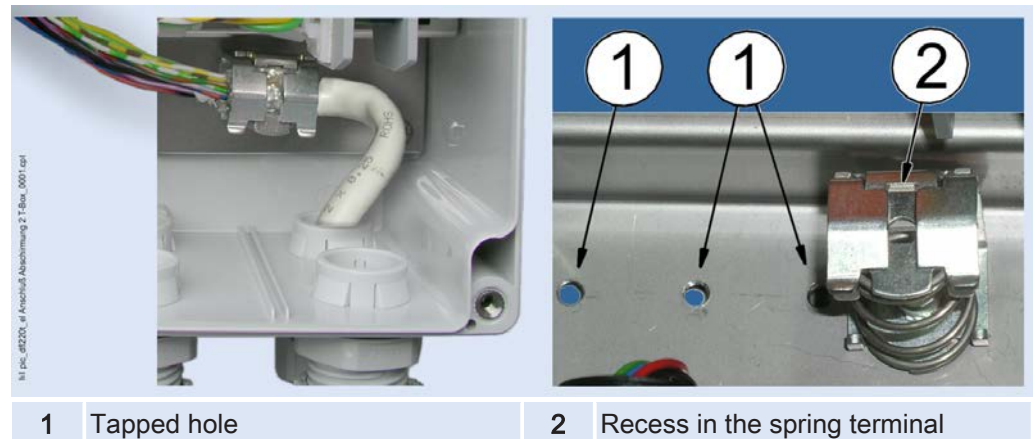

Fig. 5.33: Connecting the cable screen
Spring terminals are provided in the supply unit for connecting the data cable screens. These terminals can be released using a hexagon socket key, moved to the available tapped holes on their rail (Fig. 5.33 – 1) if required and also changed to a different direction.
2. Using a suitable tool (e.g. a screwdriver), depress the spring terminal into the recess (Fig. 5.33 – 2) provided for this and insert the screen between the jaws of the terminal.